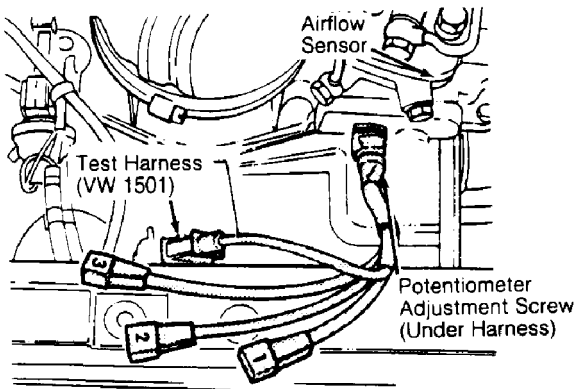

Fig. 8: Adjusting Airflow Potentiometer (CIS-Motronic)
1) Install Test Connector (VW 1501) between airflow sensor potentiometer connector and airflow sensor potentiometer on airflow meter. Check input voltage between terminals No. 1 and 3 with ignition on. See Fig. 8. Voltage should be 4.35-5.35 volts. Turn off ignition.